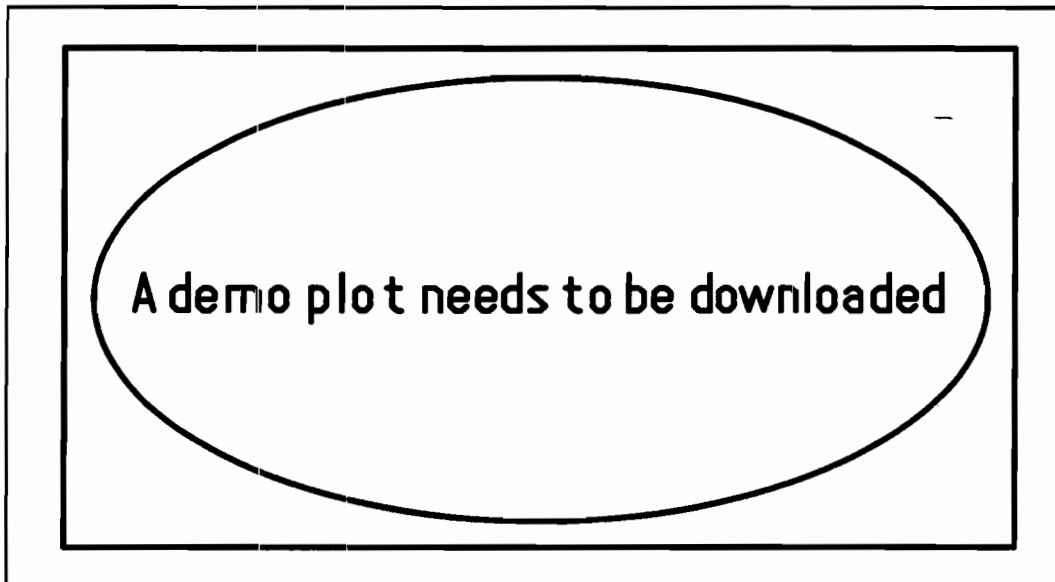

Figure 3-49. Back-up ROM Plot
The demonstration plot may not have been loaded onto the VRC disc. If so, the plot will appear as shown in Figure 3-49.
3. Either the demonstration plot (See Figure 3-50) or the plot shown in Figure 3-49 verifies the operation of the VRC/print engine system except for controller input/output. But, for troubleshooting purposes, the plot shown in Figure 3-50 is more useful. If a feature of the demonstration plot appears defective, refer to Chapter 8, TROUBLESHOOTING, in this manual for the actions to be taken. To load the demonstration plot, refer to the procedures in paragraph.